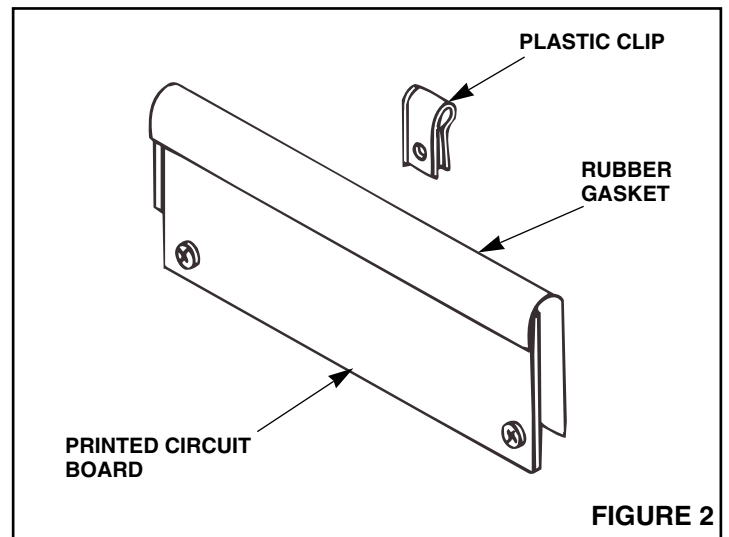

FIGURE 2
1. Refer to Figure 2. Remove plastic clip that holds the rubber gasket to the printed circuit board.
3. Refer to Figure 2. Fold rubber gasket over terminal screw connections. Hold gasket to printed circuit board by sliding the removed plastic clip over gasket and printed circuit board.